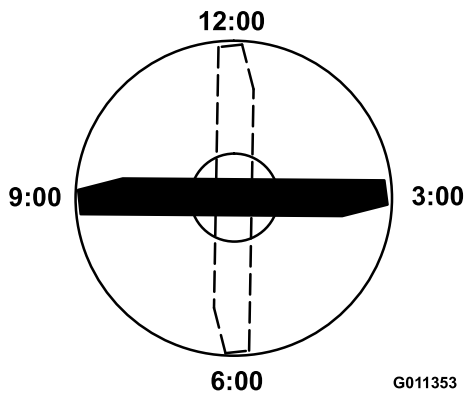

Figure 69
4. Position the cutting edge of the marked end of the blade at 12 o'clock (straight ahead in the direction of mowing) (Figure 69) and measure height from table to cutting edge of blade.
5. Rotate the marked end of the blade to the 3 and 9 o'clock positions (Figure 69) and measure the heights.